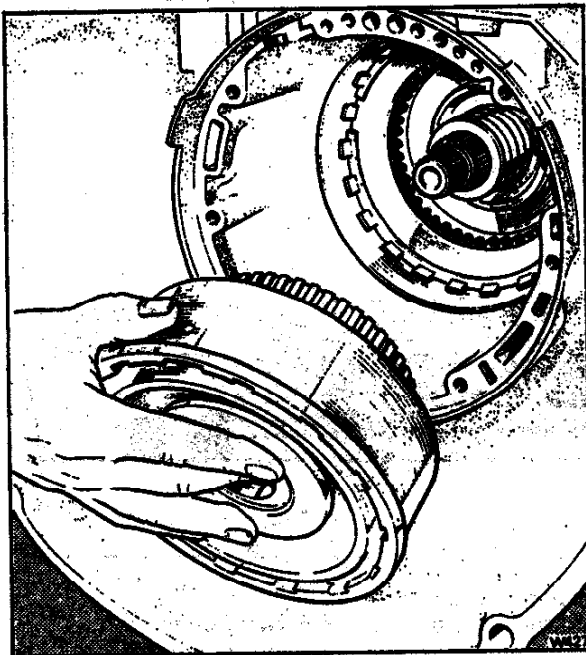

Fig. T95 Removing the direct clutch and intermediate roller/sprag assembly
5. Withdraw the direct clutch and intermediate roller/sprag assembly (see Fig. T95). The sun gear shaft may come out with the direct clutch assembly.